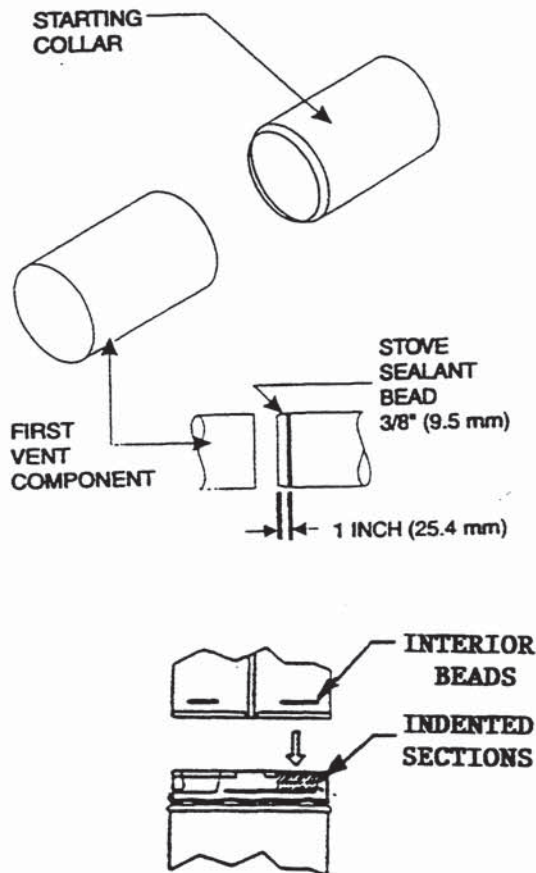

FIGURE 11
**WARNING:** You **MUST** place a 3/8" (9.53 mm) **MINIMUM** bead of stove sealant material around the end of the fireplace 4-inch (102 mm) starting collar **BEFORE** installing the first vent component. The sealant should be placed 1-inch (25.4 mm) from the end of the collar as shown in Figure 11. The stove sealant is supplied in all termination kits.
**WARNING:** If the first vent component is not properly installed and sealed tightly to the appliance vent starting collars, the appliance may not operate properly. This is especially important for the 4-inch (102 mm) inner pipe. See Figure 11.
All vent system components lock into place by sliding the concentric pipe section with four (4) equally spaced interior beads onto the appliance collar or previously installed component end with four (4) equally spaced indented sections. When the internal beads of each 6 5/8 (168 mm) outer pipe line up, rotate the pipe section clockwise approximately one quarter turn. The vent pipe is now locked together. See Figure 11.